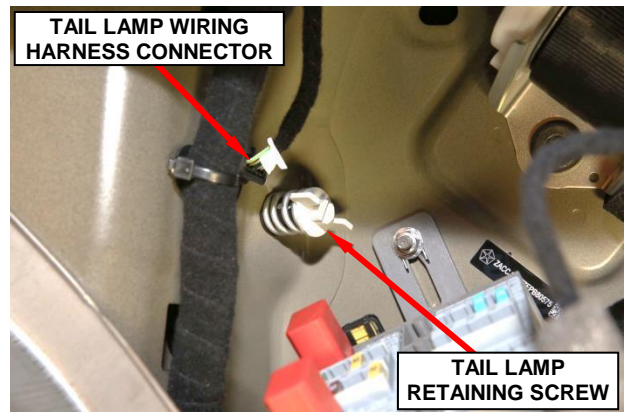

Figure 3 – Tail Lamp retaining screw and Wiring Harness Connector
3. Disconnect the wiring harness connector from the left and right side tail lamps (Figure 3).
4. Remove the tail lamp retaining screw from the left and right side tail lamps (Figure 3).
27. Install the tail lamp retaining screws to the left and right side tail lamps. Tighten the screws securely (Figure 3).
28. Connect the wiring harness connector to the left and right side tail lamps (Figure 3).